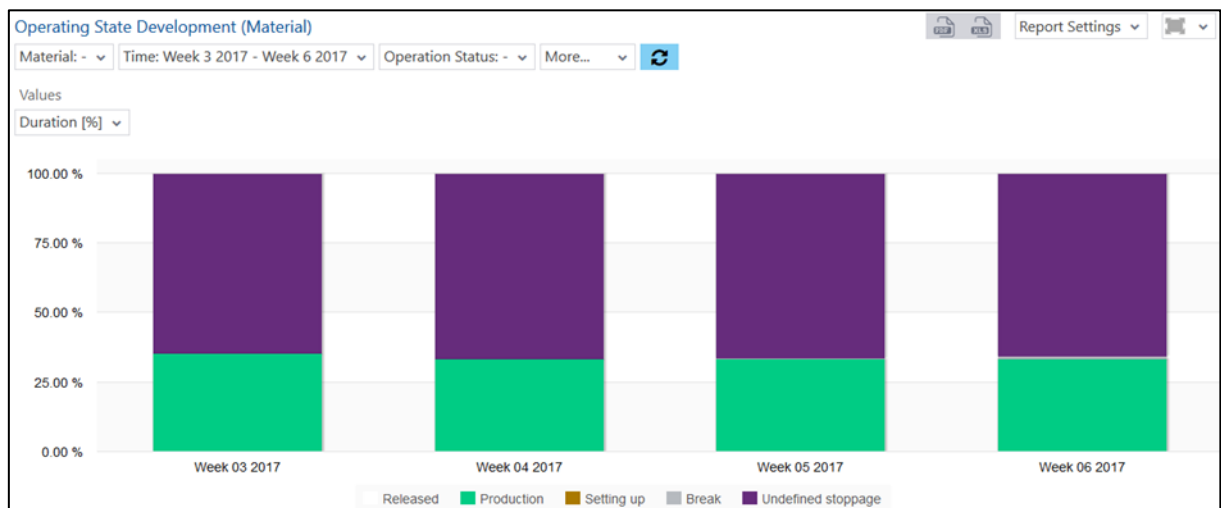

Fig. 73: Operating state development (material) as column chart
- Operating state development (material) as column chart (fig. 73):